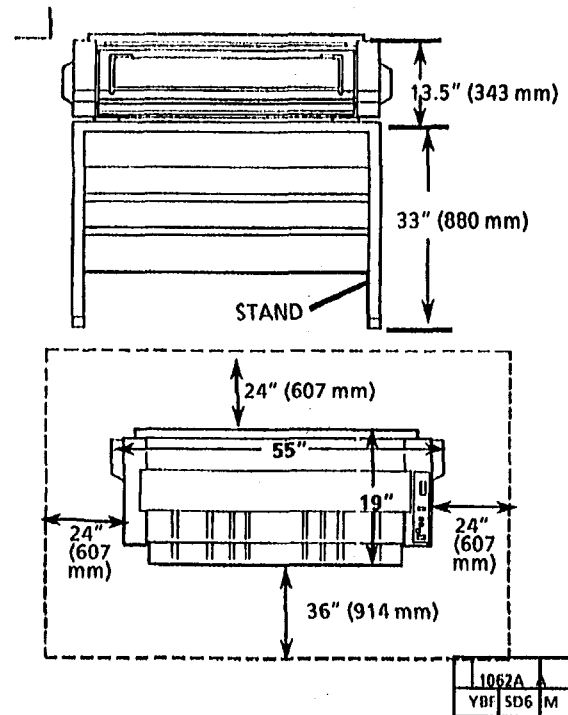

Figure 2. Minimum Space Requirements
2. (Figure 2): Check that the minimum allowable space requirements are met.